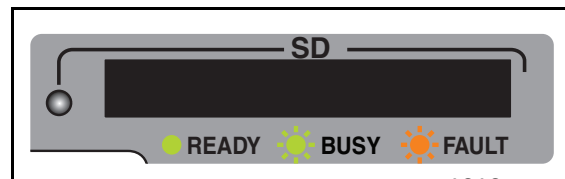

Figure 9 SD Card Slot and LED
SD Card Slot The SD slot for a secure digital memory (SD) card is displayed in Figure 9 and is used in the following situations:
SD Status LED The SD Status LED on the AT-SBx31CFC Fabric Control Card is displayed in Figure 9 on page 27 and described in Table 6.